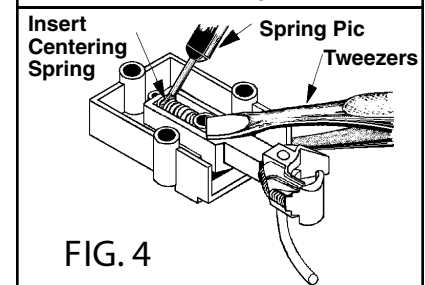

FIG. 4
4. Place Coupler and Draft Gear Box together. While holding with tweezers, install Centering Spring into spring slot using a Kadее® #235 Spring Pic or small jewelers screwdriver wedged between the last two coils of the spring, see Fig. 4.